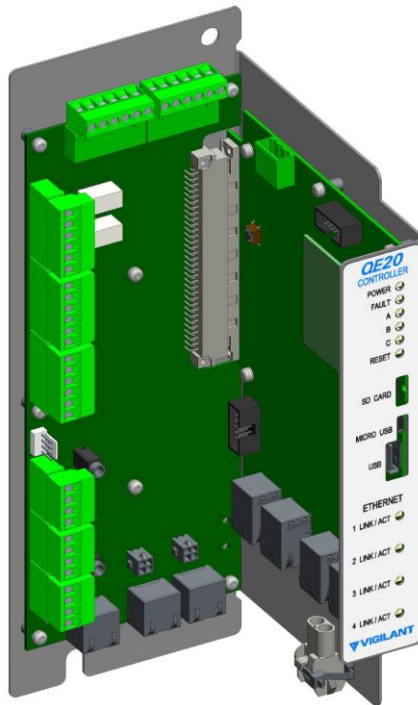

Figure 1A – FP2000 QE20 Controller Module
- FP2000 QE20 Controller Module – for mounting in deep cabinets. Refer Figure 1A.